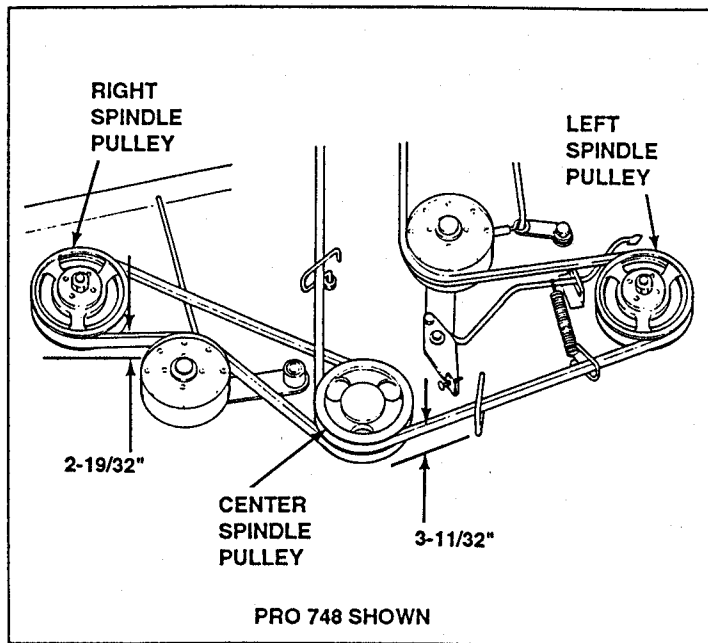

FIGURE 34
3. Check Spindle Pulley height by measuring the height from the top of the deck to the top of the Cutter Deck Belt. See Figure 34.